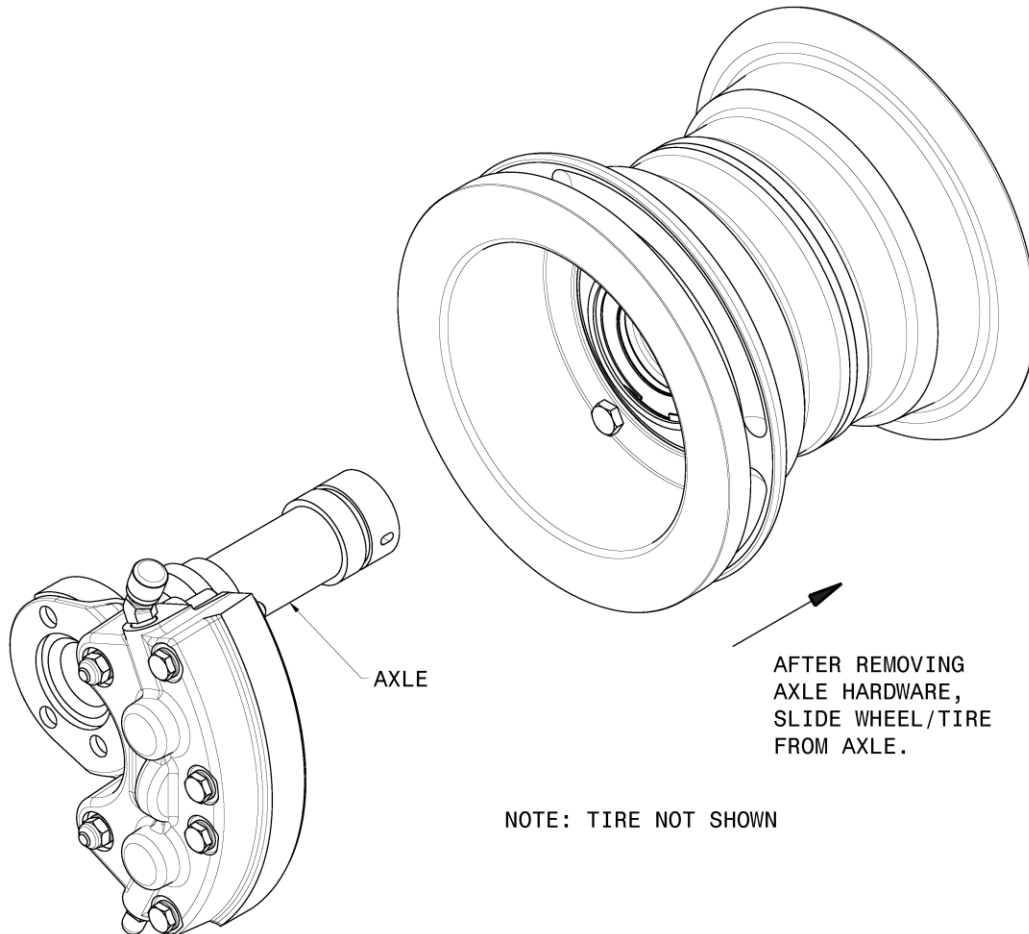

Figure 3 Remove the wheel/tire assembly
- (5) Refer to Figure 3 and remove the axle mounting hardware and remove the wheel/tire unit from the axle.